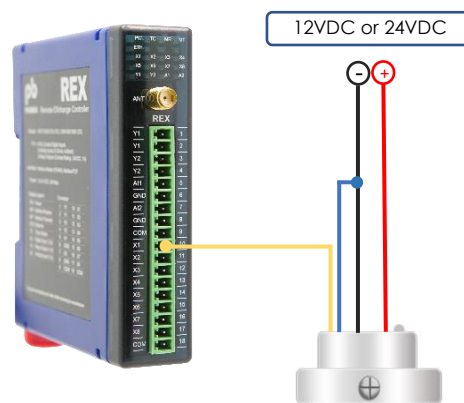

Figure 4
**Example 1:** Figure 4 shows the connection of one unit of SP-12 to REX